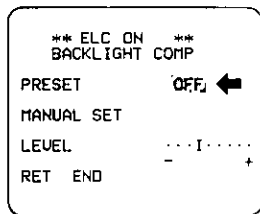

Fig. 57
- Press the Setup Mode Button (SET UP) to proceed to the Backlight compensation menu as shown in Fig. 57.